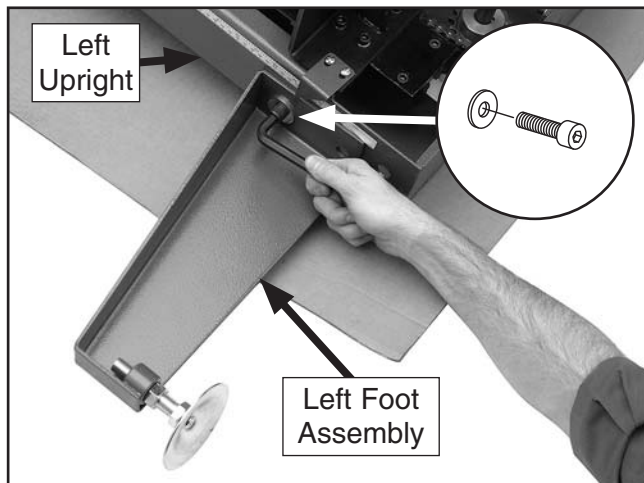

Figure 11. Foot assembly attachment.
1. Attach the left foot assembly to the left upright with (1) $\frac{3}{8}$ "-16 x $\frac{3}{4}$ " cap screw and (1) $\frac{3}{8}$ " flat washer, as shown in **Figure 11**. Do not yet fully tighten the cap screw.